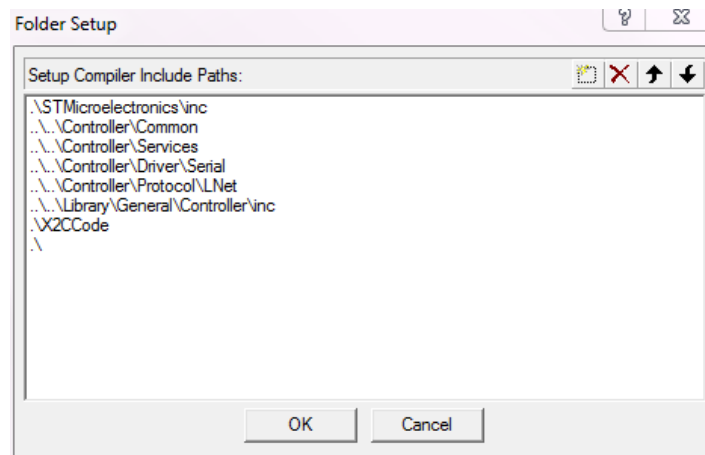

Figure 30: Keil μ Vision include paths setting
3. In the *Keil μ Vision* file structure of the *Blinky* demo project are two virtual folders *Blocks* and *Core*, which are linked relatively to the *X2C* directory. If the *Blinky* demo project is copied/moved to a different location, the include paths as seen in Figure 30 have to be adapted.